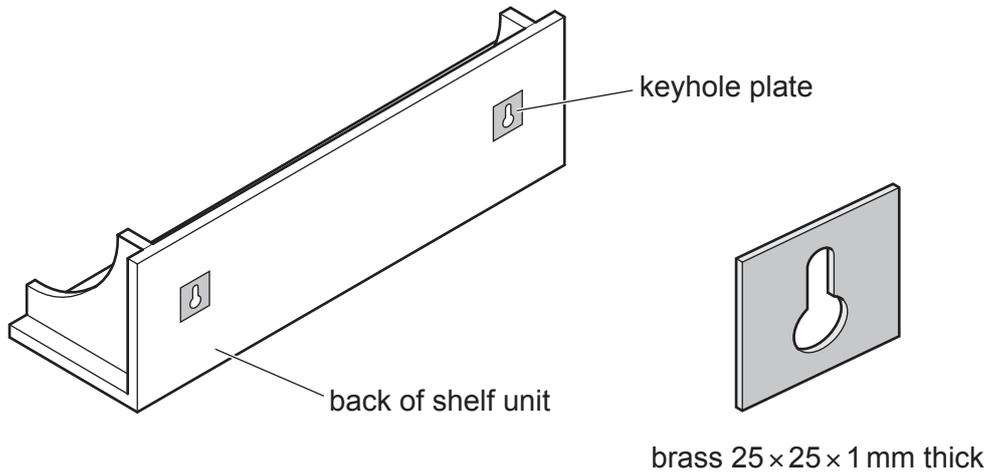

Fig. 6.1
- 6 Fig. 6.1 shows the back of a shelf unit and details of two keyhole plates that will be used when fitting the shelf unit to a wall.